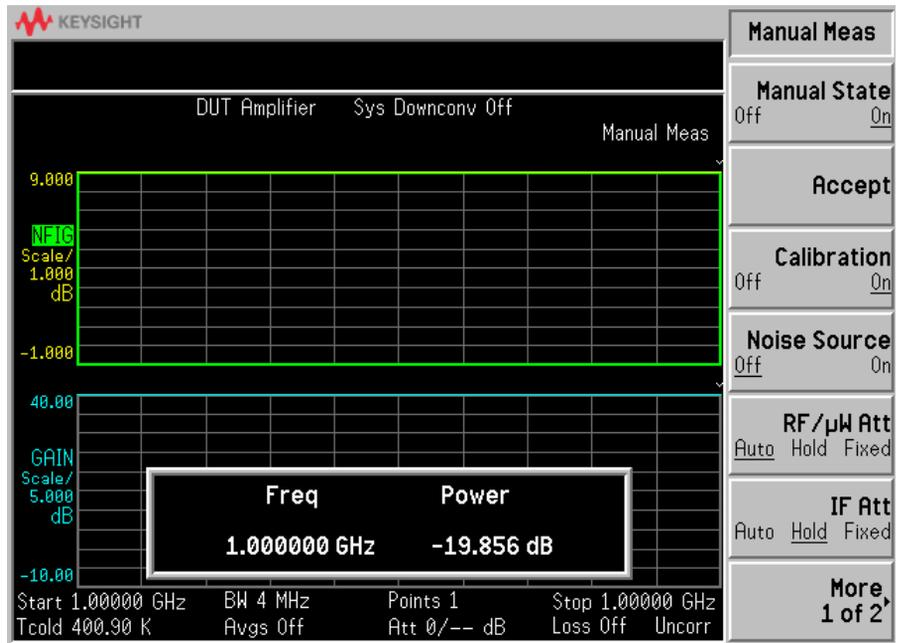

Figure 4-11 Typical example of power reading with Noise Source Off
- 15 Monitor the power value which appears in the manual measurement screen. **Figure 4-11** on page 40 shows a typical example of this.